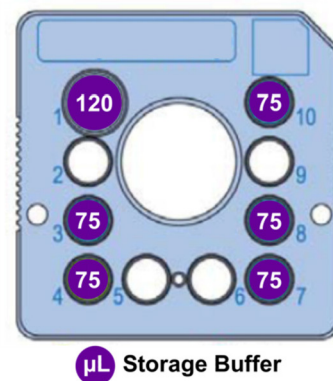

Figure 2: Chip Storage
3. Add **75 µL** of Storage Buffer ● to each active well, and **120 µL** to the waste well, as shown in Figure 2.